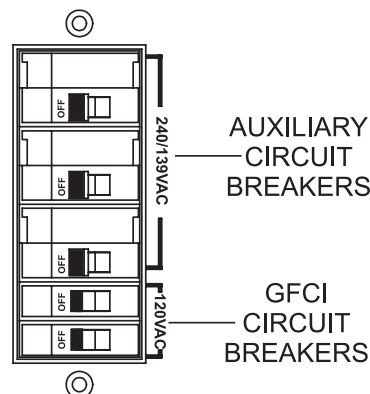

Figure 38. GFCI And Auxiliary Circuit Breakers (OFF)
3. Make sure the **GFCI and auxiliary circuit breakers** are placed in the **OFF** position (Figure 38).